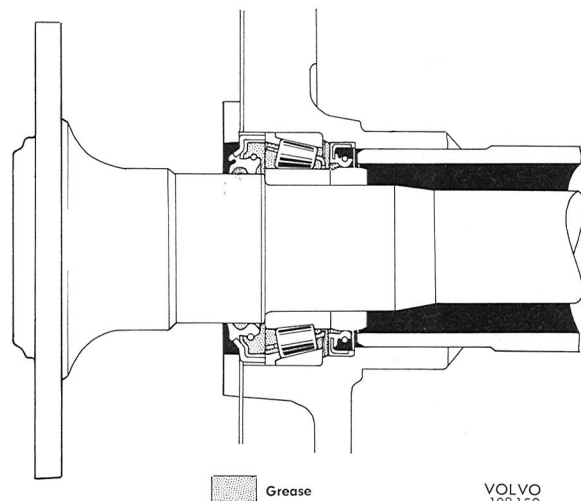

Fig. 4-143. Drive shaft journaling
The outer ends of the drive shafts are journaled in taper roller bearings. Bearing clearance is not adjustable and is determined by the construction of the bearing, see Fig. 4-143. The drive shaft bearings are on the outside provided with oil seals.
6. Fill the space between the new seal lips with grease. Then install the seal on the drive shaft, install the bearing and lock ring. Turn the bearing correctly, see Fig. 4-143.
8. Fill the bearing with a good quality grease. Also fill the space between the seals and the space between the seal lips with grease, see Fig. 4-143. Install the drive shaft. Tighten the bolts for the thrust washer to a torque of 50 Nm = 5 kpm = 36 lb.ft. Install the brake disc and brake caliper. Re-connect the brake line. Bleed and adjust the brakes, see Section 5.